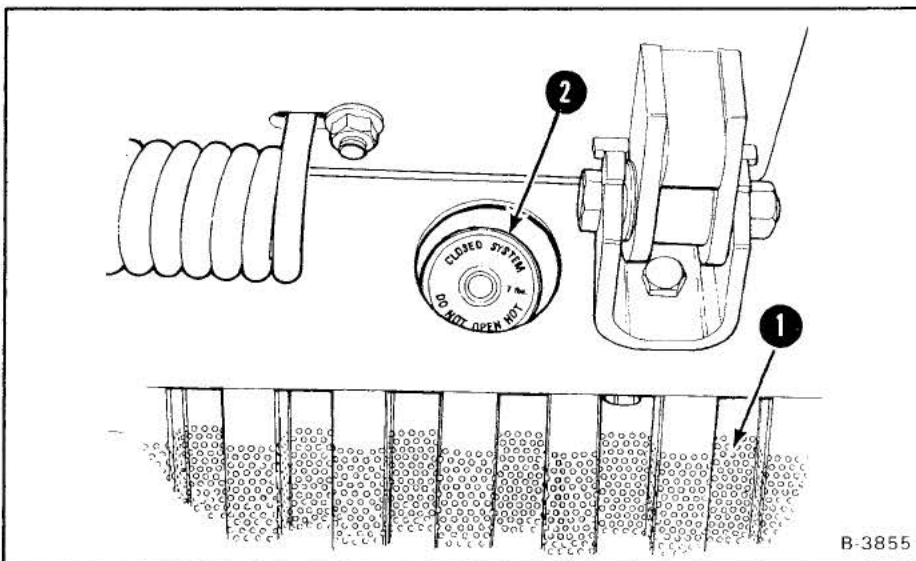

Fig. 52 Radiator Cap
2. Remove the grill (Fig. 52, Item 1).
3. Remove the radiator cap (Fig. 52, Item 2). The grill must be removed to do this.